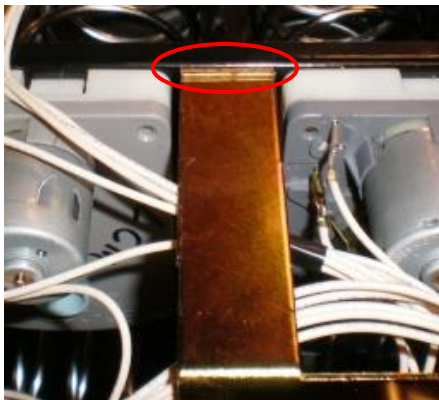
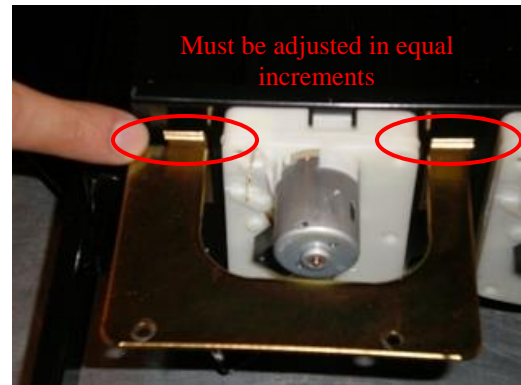

Figure 17B
Figure 17C
48. There are shims that can be adjusted to assure proper alignment of the **TRAY**. For the Mini-Fit and Spade connectors (Figure 17C) there are 2 sets of shims pre-installed. There are 2 shims on the 6-Pin connector pre-installed (Figure 17B). Both are located on the Tray Harness Bracket.